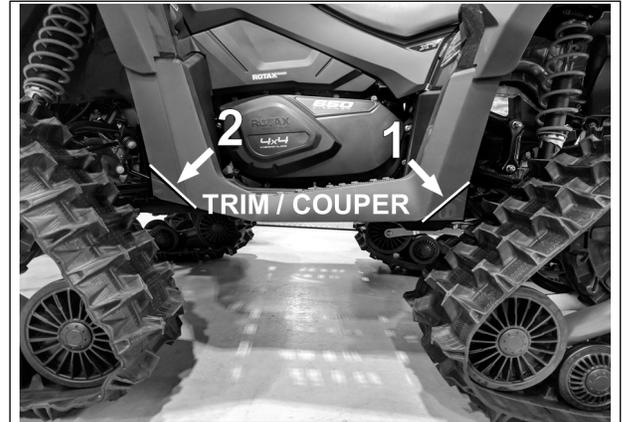

Fig. 19
1. To prevent any possible contact between the undercarriages and the footguards, the outer corners of the footguards have to be modified. The modifications will help to avoid damages to the vehicle and to the track systems. Refer to Fig. 19